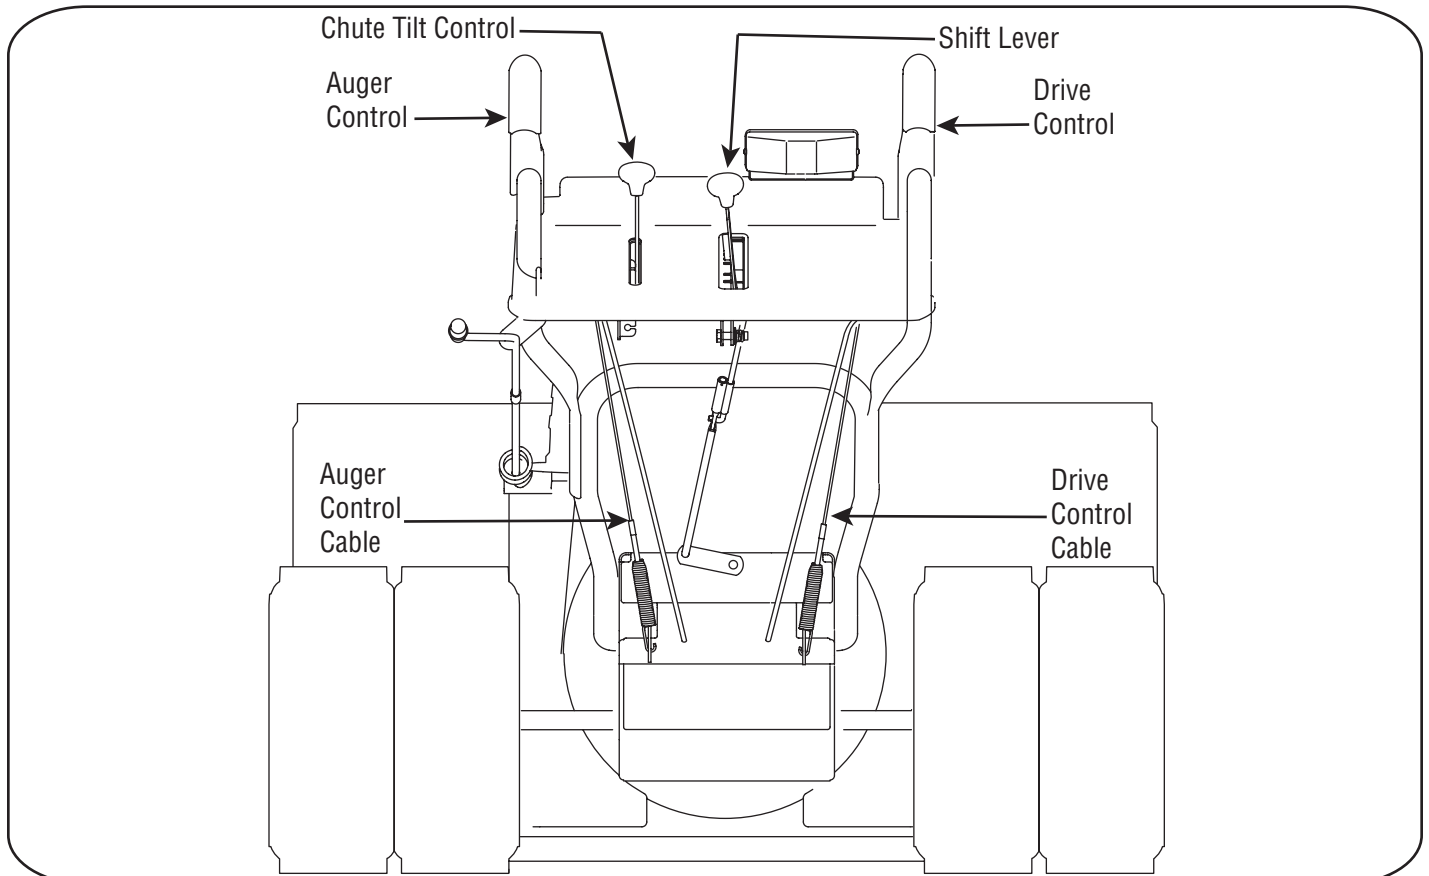

Figure 9
Refer to Fig. 9 for location of controls.
1. From beneath the handle, pull downward on the appropriate cable and unhook the spring found on the end of the cable from its respective actuator bracket. Refer to Figs 9 and 10.